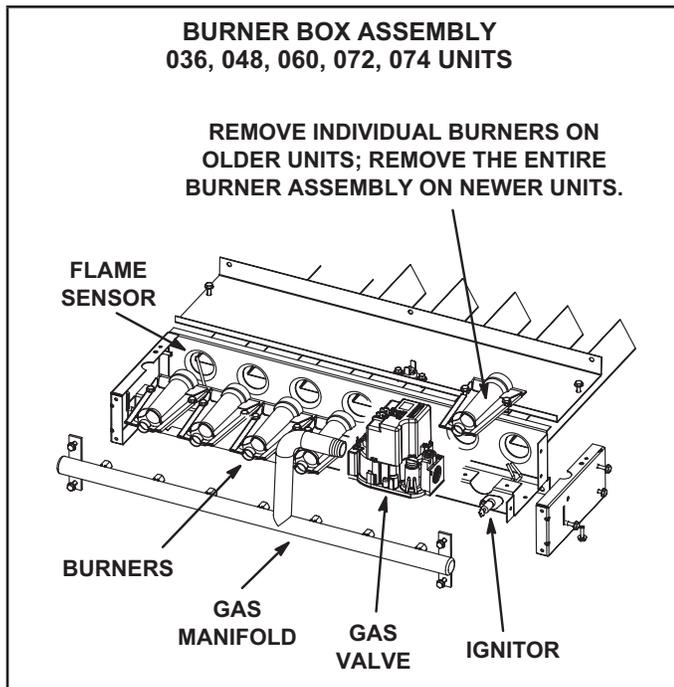

FIGURE 8
- 3 - Remove top burner box panel. See figure 8 or 9.